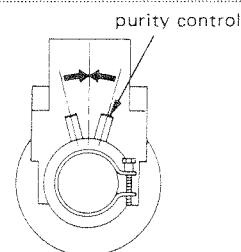
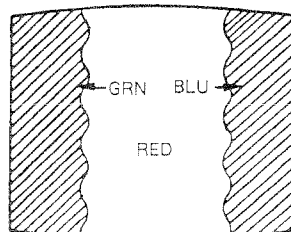

Fig. 3-1.
Fig. 3-2.
3. Loosen the deflection yoke mounting screw, and set the purity control to the center as shown in Figure 3-1.
4. Set BKG VR (R) to maximum and set (B) and (C) to minimum.
5. Move the deflection yoke back, and adjust the purity control so that (R) is in the center and (C) and (B) are at the sides, evenly. (Figure 3-2.)
7. Substitute (C), then (B) for (R) in step 4 and check landing.
8. Rotate (R), (C) and (B) once each and check landing.